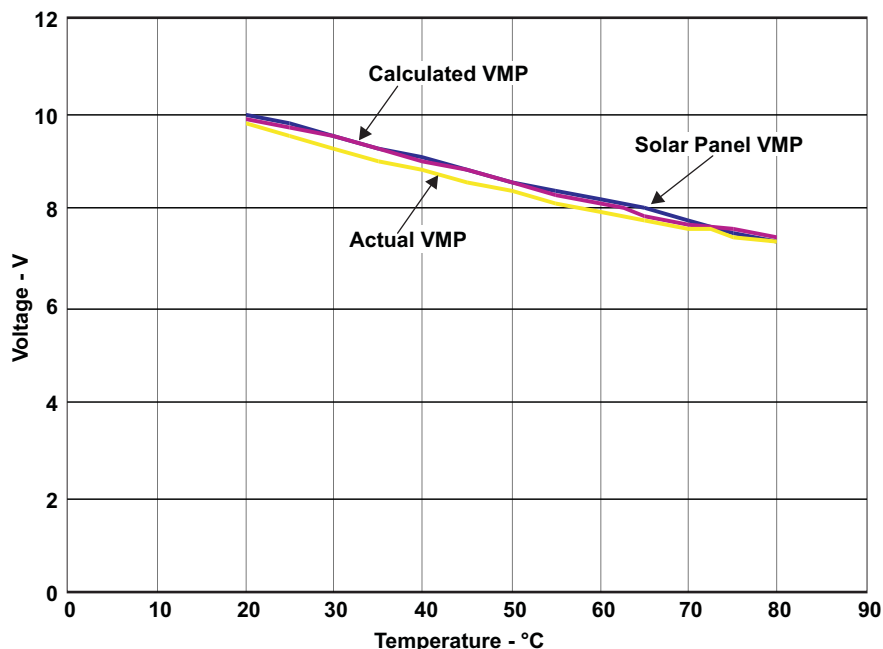

Figure 14. V_{MP} Change Over Temperature Results
Using standard resistor values gathered from using the spreadsheet tool, the bq24650 EVM was modified to incorporate MPP tracking over temperature using the circuit in Figure 4. The solar panel and NTC thermistor mentioned in this example were placed in a temperature chamber so that the temperature of the panel was varied from 20°C to 80°C. With the EVM connected to the solar panel and charging a battery, the result of the V_{MP} change over temperature was recorded and can be seen in Figure 14.
The blue trace in Figure 14 represents the change in the V_{MP} value of the solar panel over temperature. This trace can be representative of data sheet information provided by the solar panel's manufacturer. However, in this specific instance, two Sharp LR0GC02 solar panels were connected in series and V_{MP} over temperature data was manually collected. Based on the collected data the V_{MP}/cell , V_{OC}/cell , and temperature coefficient were calculated and entered into the spreadsheet tool. The magenta trace in Figure 14 represents the change in the calculated V_{MP} value over temperature. This data is gathered from the spreadsheet tool, the column labeled Calculated V_{MP} (V) under the Data tab. The yellow trace in Figure 14 represents the actual change in the V_{MP} value over temperature. This data was gathered from the real-world experiment using two Sharp solar panels in series, the previously mentioned NTC thermistor, corresponding R_p , R_s , and R_b values found using the spreadsheet tool and a temperature chamber. As seen in Figure 14, the simple, cost-effective solution provided in this application report, in order to track a solar panel's MPP, proves to be accurate.